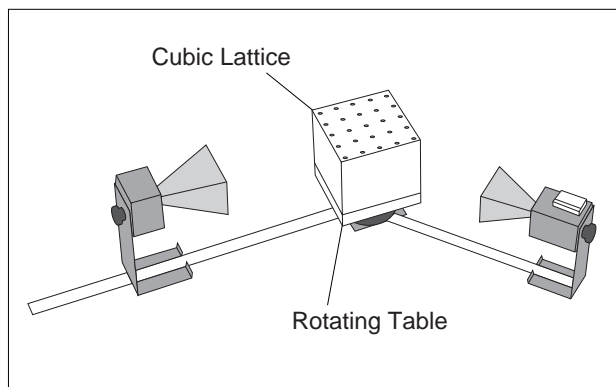

Figure 12.1 Equipment Setup
- ① Arrange the equipment as shown in Figure 12.1.